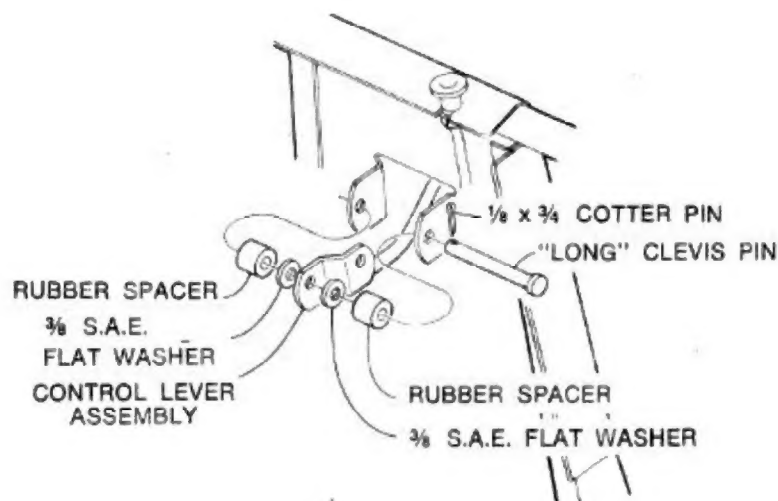

FIG. 6
7. Attach the control lever assembly to the handle, Fig. 6.
Secure the (2) rubber spacers\*, (2)  $\frac{3}{8}$  S.A.E. flat washers\* and the control lever\* to the bracket on the backside of handle, as shown in Fig. 6, using the "long" clevis pin\* and a  $\frac{1}{8}$  x  $\frac{3}{4}$  cotter pin\*.